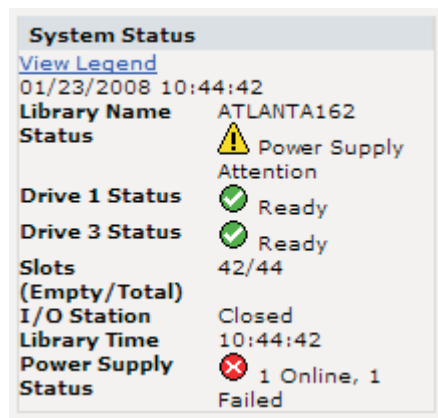

Figure 2-6. 4U library System Status screen showing a power supply failure
- The Power Supply Status will only appear if redundant power is being utilized with a 4U library, and the library was manufactured after March 14, 2008. If a redundant power supply fails, the System Status screen will appear as shown in Figure 2-6.